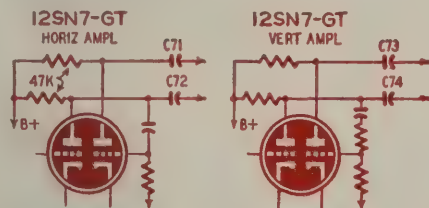

Fig. 1—Horizontal and vertical amplifier circuits of Hallcrafters 505.
**Insufficient width, width control ineffective.** Open 47,000-ohm plate resistors in 12SN7-GT horizontal amplifier. (See Fig. 1.)
**505.** Picture deflected toward upper right of screen (vertical or horizontal centering controls ineffective). Leaky .05- $\mu$ f, 6-kv coupling capacitor C73 (Fig. 1), .0005- $\mu$ f, h.v. 6-kv capacitor